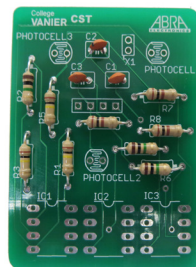

Fig.4
4. Install and solder capacitors C1, C2 and C3 (0.1uf) as per fig.4.